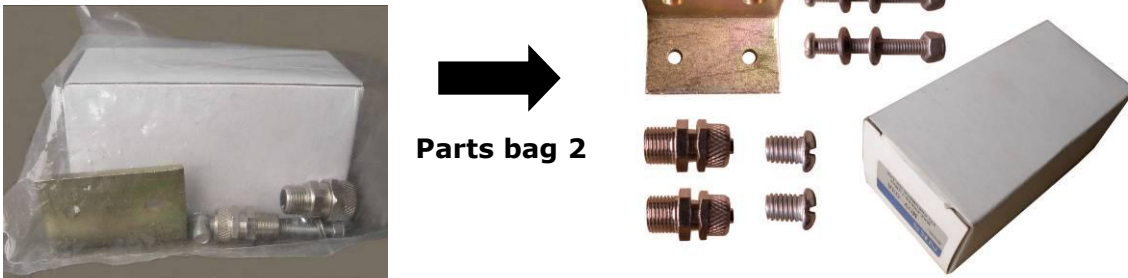

Fig. 12
7. Check the parts of the parts bag according to the parts bag list (See Fig. 12).